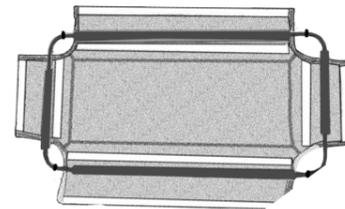

Figure 5
1. Lay the mesh panel (D) on a flat surface with the hook & loop side channels open and facing up (figure 5)